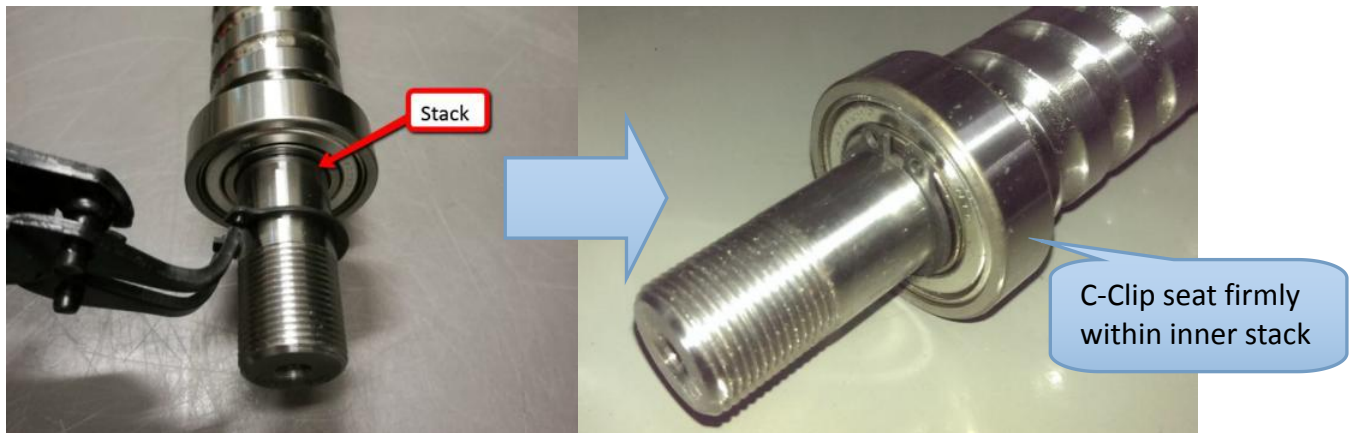

Figure 26 C-Cip assembly
28. Transfer C-Clip (Previously dismantle) to new Y axis ball screw by using C-Clip Pliers. Ensure the C-Clip seat firmly within inner stack. May refer to below Figure 26.